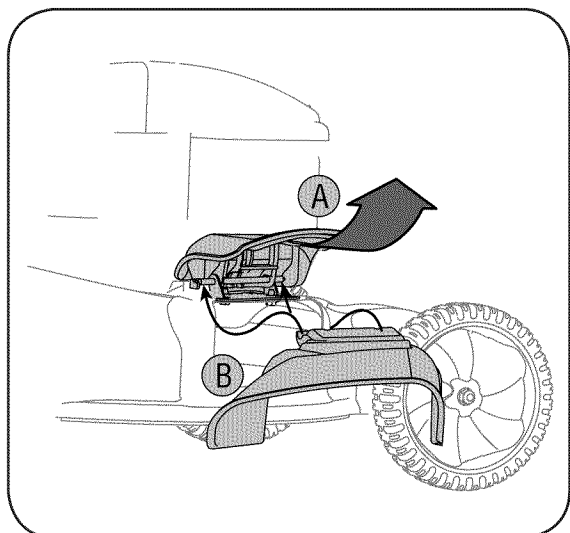

Figure 3-8
- b. Slide two hooks of side discharge chute under the hinge pin on the mulching plug assembly and lower the side mulching plug. See Figure 3-8.